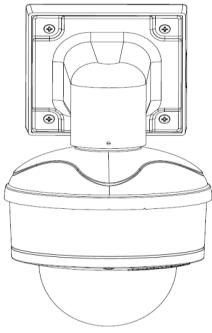

Figure 6
9. Attach the Dome Cover to the MegaDome® 4K camera and fasten securely four captive screws as shown in Figure 6.